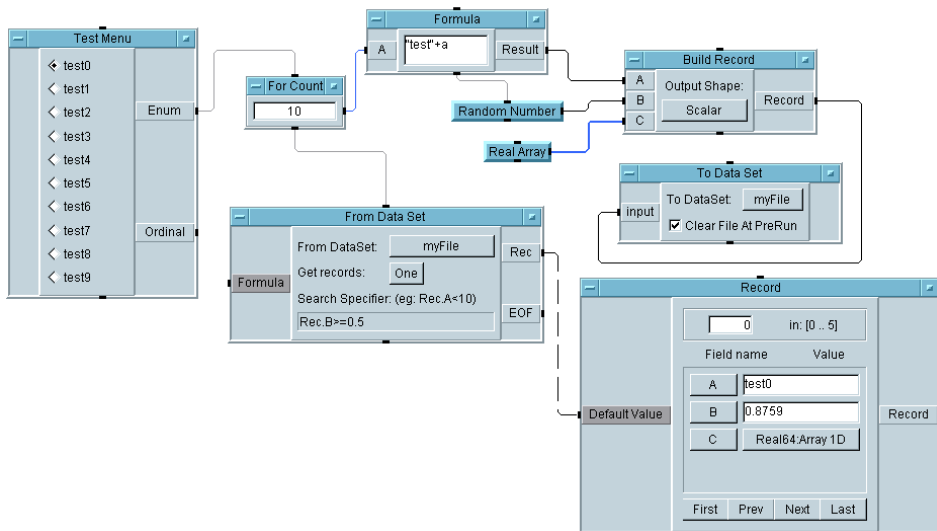

Figure 5-17. Adding the Test Menu object
5. The program should only execute when a menu selection is made, so connect the `Test Menu` data output pin `Enum` to the `For Count` sequence input pin. The program should look like Figure 5-17.